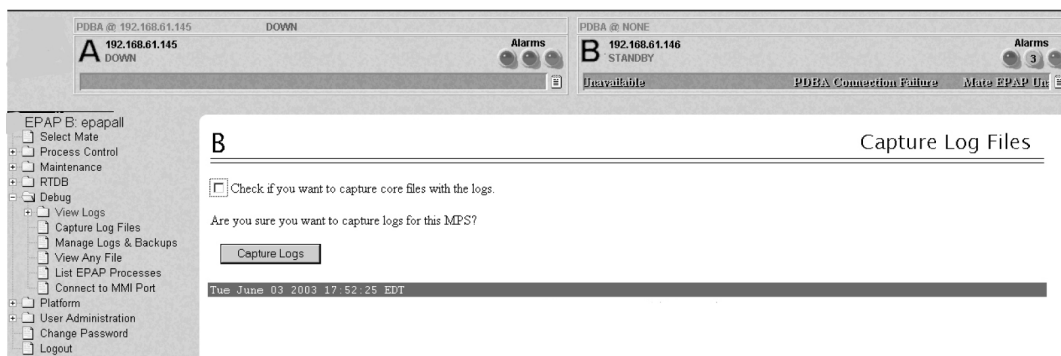

Figure 67: Capture Logs File Screen
4. Deselect (if necessary) the box labeled Check if you want to capture core files with the Logs, as shown in Figure 67: Capture Logs File Screen.